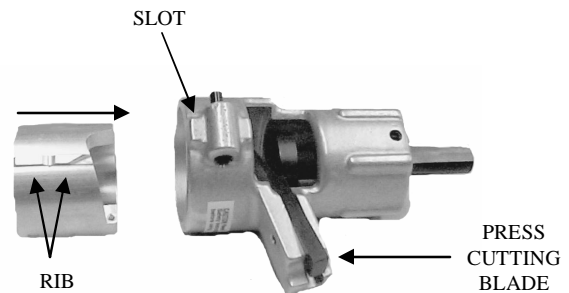

Fig. 2
**Step 2.** (Fig. 2) To insert the bushing into the WS6, line up rib on the bushing with the slot on the WS6 housing. Raise the cutting blade by depressing outer end and insert the bushing until it locks into place.